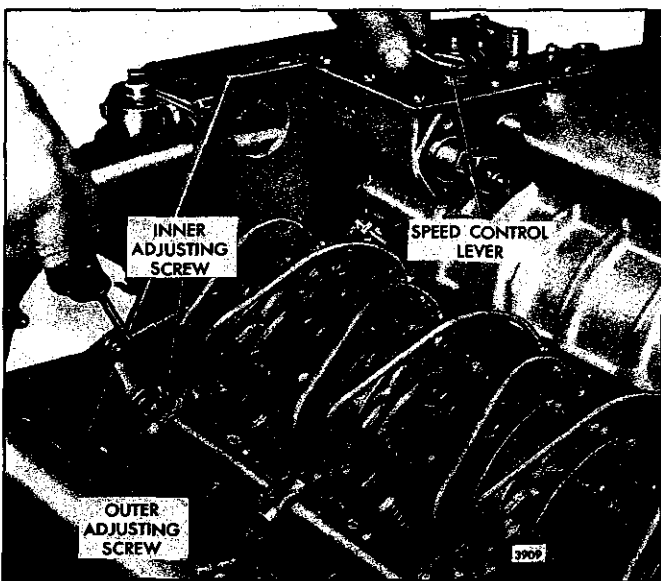

Fig. 13 - Positioning No. 1L Injector Rack Control Lever
6. Move the speed control lever to the *full-fuel* position and hold it in that position with light finger pressure. Turn the inner adjusting screw of the No. 1L injector rack control lever down (Fig. 13) until a slight movement of the control tube lever is observed or a step-up in effort to turn the screwdriver is noted. This will place the No. 1L injector in the *full-fuel* position. Turn down the outer adjusting screw until it bottoms lightly on the injector control tube. Then alternately
The internal starting aid screw is threaded into the governor gap adjusting screw (Fig. 13). This screw is adjusted to position the injector racks at less than *full-fuel* when the governor speed control lever is in the *idle* position. The reduced fuel makes starting easier and reduces the amount of smoke on start-up.